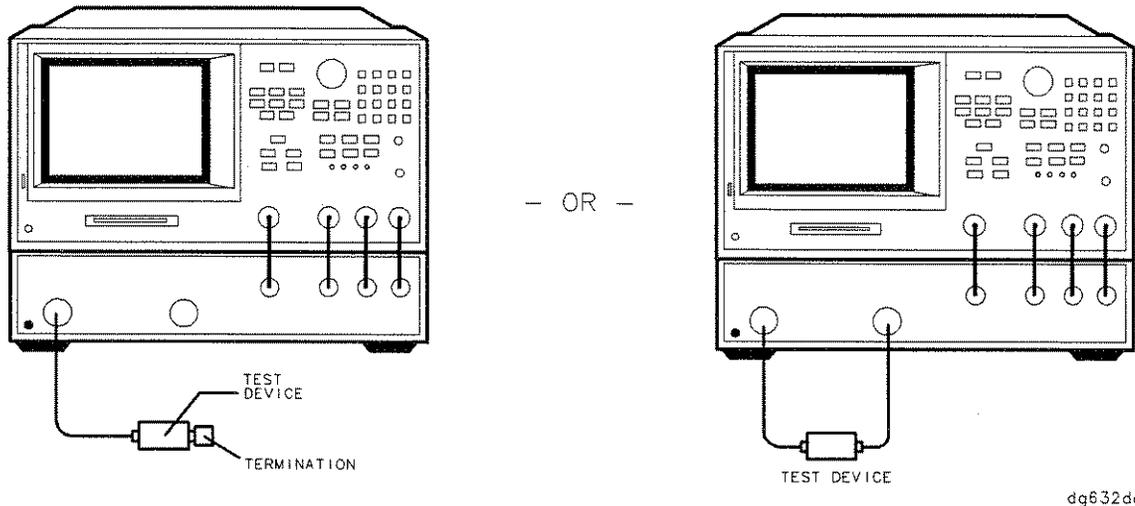

Figure 2-8. Connections for Reflection Measurements
1. Connect your test device to the S-parameter and analyzer combination as shown in Figure 2-8.